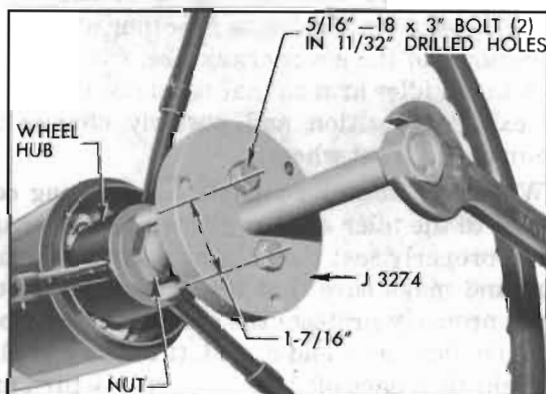

Figure 8-6—Removing Steering Wheel with Puller J 3274
3. Apply Puller J 3274 and pull wheel back to nut. See figure 8-6. NOTE: *If wheel hub is*